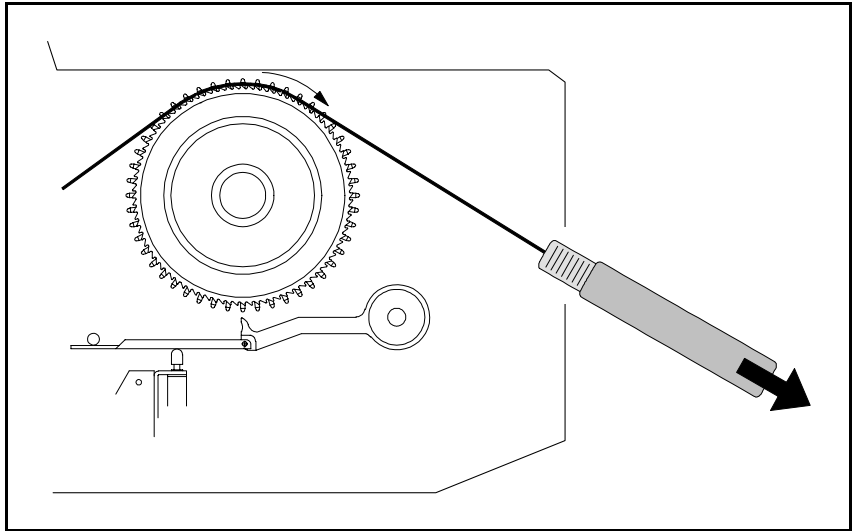

Figure 16. Feeder wheel friction measurement
77. Measure the feeder wheel friction by putting a piece of component tape on the feeder wheels and pull the tape using a dynamometer (see Figure 16). The force required to rotate each wheel shall be 1 - 5N. If necessary, adjust by turning the nut (A in Figure 9) clockwise to increase the friction, counter-clockwise to decrease it.